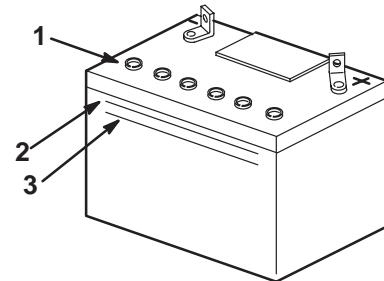

Figure 17
2. Look at the side of the battery. The electrolyte must be up to the Upper line (Fig. 17). Do not allow the electrolyte to fall below the Lower line (Fig. 17).
3. Remove the vent caps from the battery (Fig. 17).
4. Slowly pour distilled water into each battery cell until the electrolyte level is up to the Upper line (Fig. 17) on the battery case.
5. Wait five to ten minutes after filling the battery cells. Add distilled water, if necessary, until the electrolyte level is up to the Upper line (Fig. 17) on the battery case.